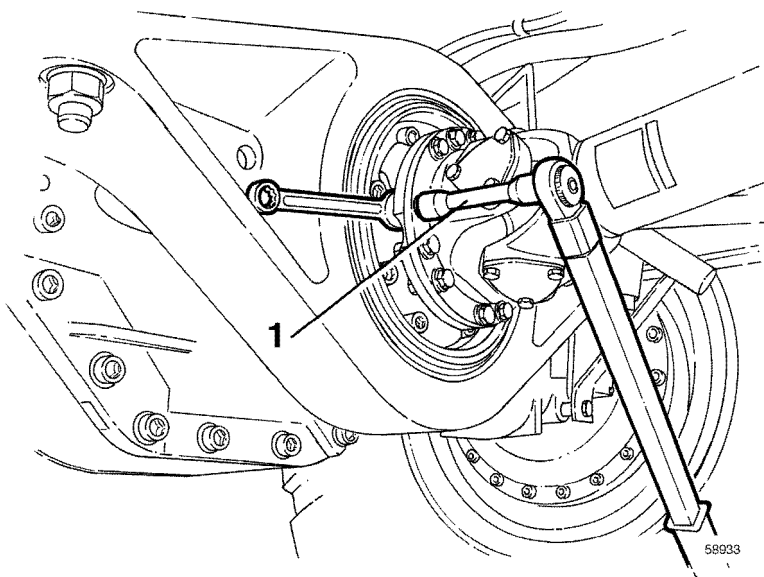

Figure 1
5. Connect the propeller shaft to the rear axle, see Figure 1.